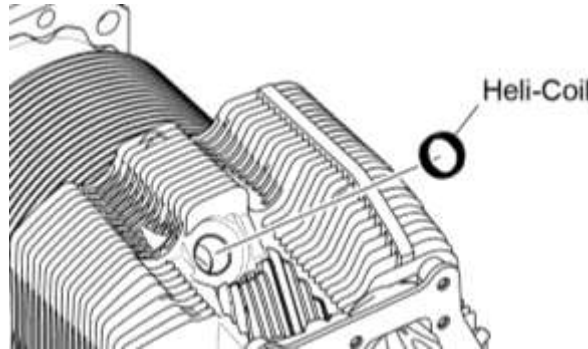

Figure 49
- A. Replace the spark plug Heli-Coil® insert (Figure 49) in the cylinder head if the threads in the spark plug hole in the cylinder are damaged (usually occurs when hard carbon on the end of the spark plug causes the insert to unwind during spark plug removal).